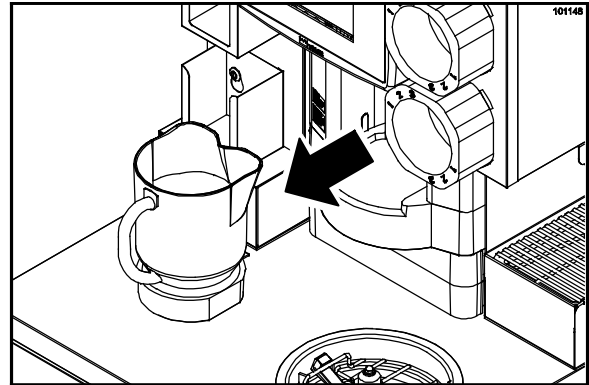

Figure 68
11. Remove the blender pitcher and discard the ice into the back sink. (See Figure 68.)